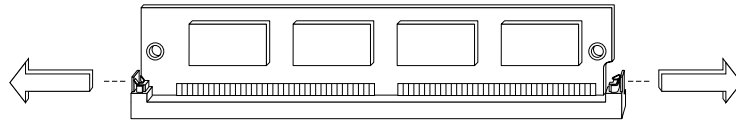

Figure 8-25 Releasing the Latches on the SIMM
8. With your thumbs, pull the latches away from the SIMM, as shown in Figure 8-25.